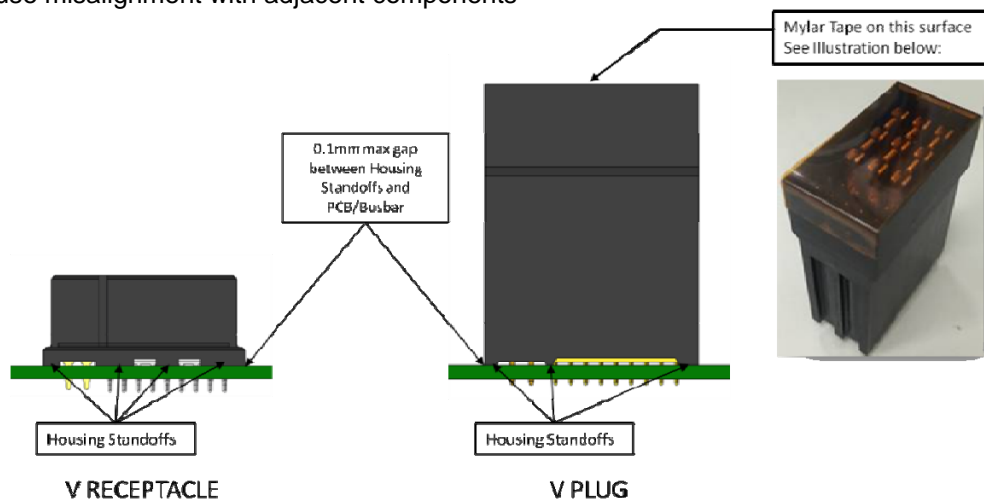

Figure 8: PwrMAX[®] Mezzanine Configuration (Proper Seating Depth)
- Physically remove the Mylar Tape from the mating shroud of the V Plug connector after soldering process is completed. See Figure 8 for illustration of Mylar Tape.
- Visually assure that the plastic standoffs on the bottom of the assembly are seated within 0.10 mm of flush to the PCB but not crushed (see Figure 8). A larger gap beneath the standoffs may indicate that the product is not seated parallel or perpendicular to the board. In the case of the header, this can cause misalignment with adjacent components